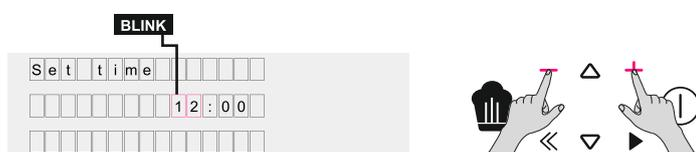

Figure 4
- Set the time by pressing the PLUS and MINUS buttons. Press OK to go ahead. (Figure 4)